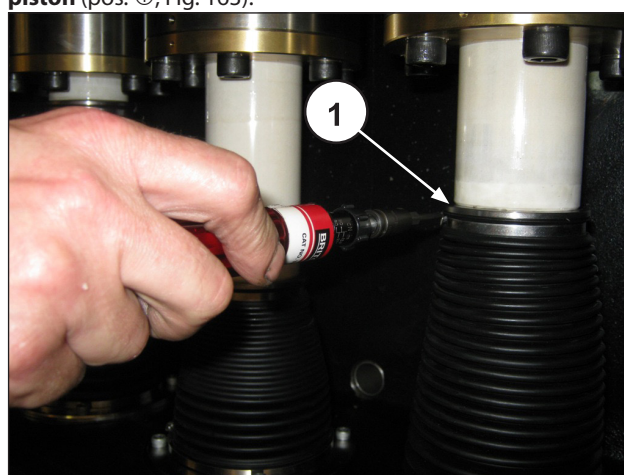

Fig. 163
The bellows must be refitted to the splashguard and the clip securing the bellow to the splashguard must be tightened only after having mounted the manifold **and secured the piston** (pos. ①, Fig. 163).